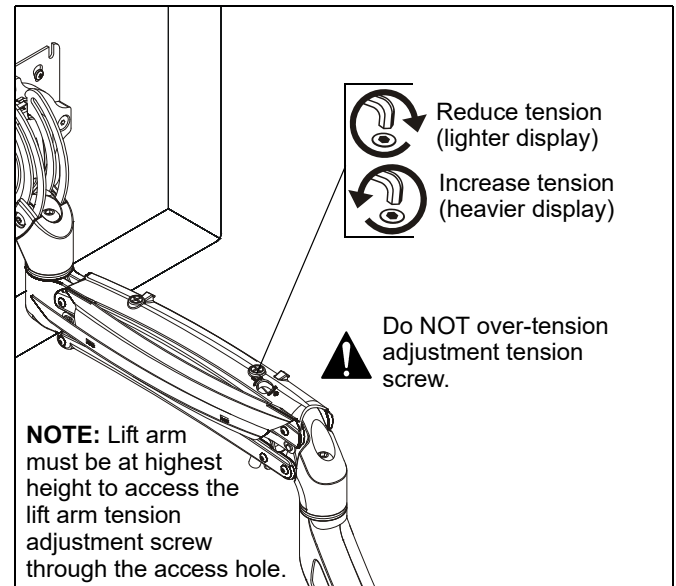

Figure 15
1. Tension may be adjusted with tension adjustment screw inside cable management cover and 1/8" hex key (L). (See Figure 15)